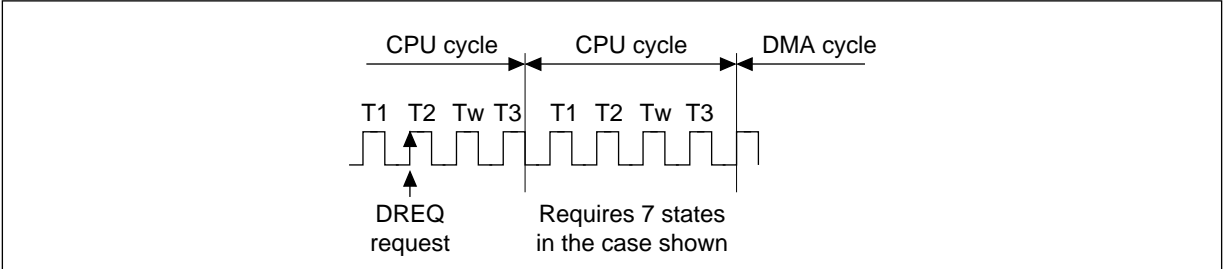

Figure 2.1 Wait State Insertion
2. When the wait is longer than those described above, wait states may have been inserted by a CPU bus cycle that has a DREQ request. (See figure 2.1.)